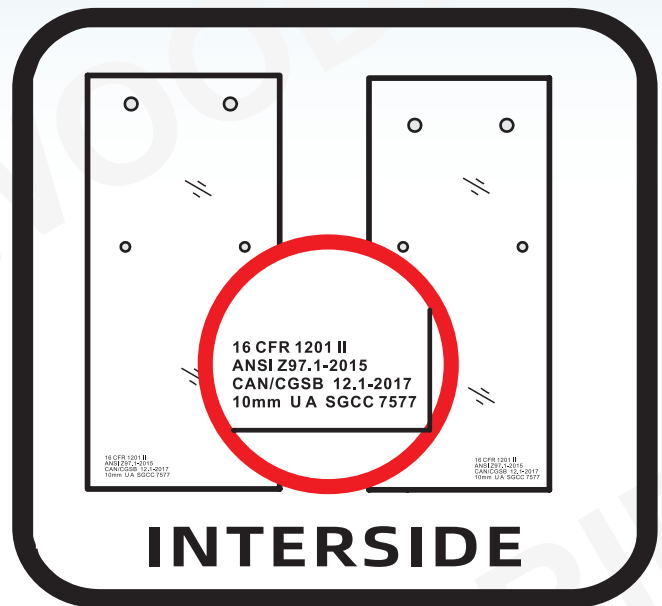

Fig 1
These Woodbridge shower doors include SHATTER-SAFE protective film on the side of the glass without the certification information printed on it, see the fig 1 & 2.
1. As shown in Fig 1, install the auxiliary parts at a distance of 16.5mm from the edge, keep the vertical in the hole position to draw a line and drill holes, punching into the wall adhesive particles.